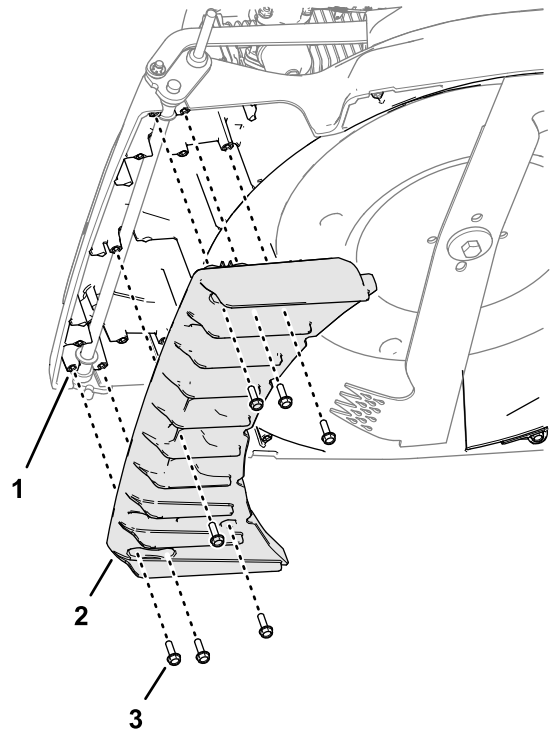

Figure 7
2. Remove the 7 self-tapping, flange-head screws (6 x 20 mm) that secure the front fins to the supports of the mower deck, and remove the front fins (Figure 7).